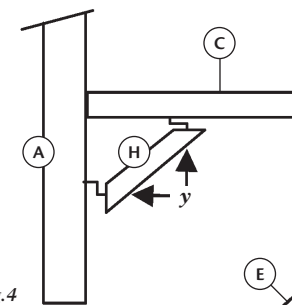

Fig.4
Now fix the Seat Support Struts (H) between the bottom of the Seat (C) and the Post (A) at the front of the seat as Fig.4.